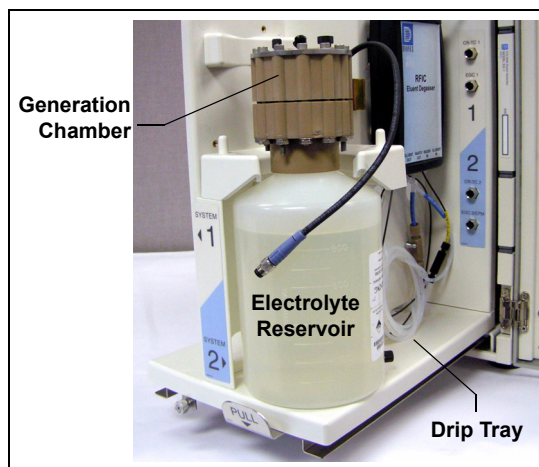

Figure 9-14. EluGen Cartridge in the Service Position
8. Turn the EluGen cartridge upside down and place it on the EG drip tray (see Figure 9-14). This is the “service position” for the cartridge.
3. Turn the cartridge upside down and place it on the EG drip tray in the service position (see Figure 9-14).
4. Lift the EluGen cartridge out of the holder, turn it upside down, and place it on the drip tray in the service position (see Figure 9-14).